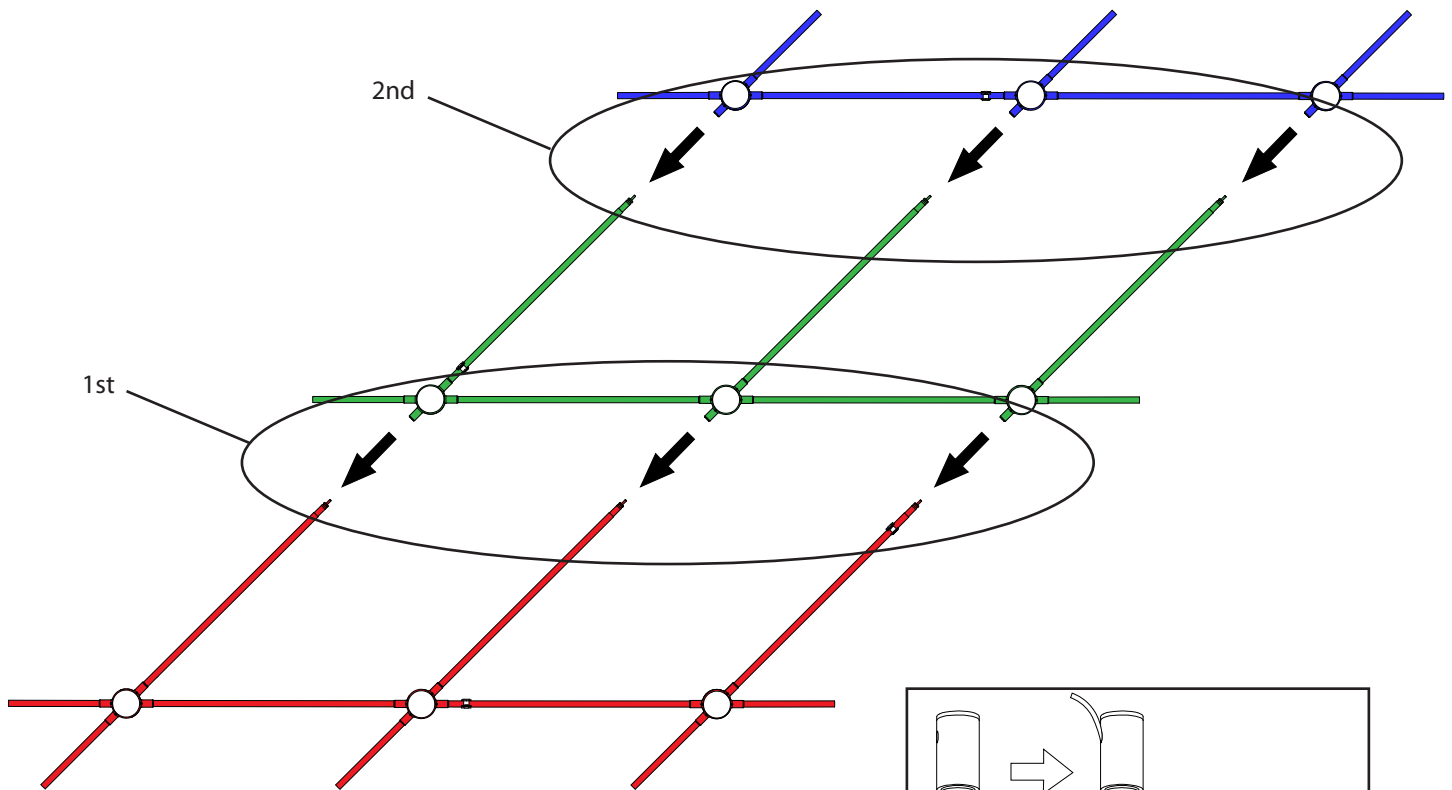

Fig. 7
13. Consecutively connect the previous section to the next section (Section 1 to Section 2, Section 2 to Section 3, etc.) one Arm at a time starting from either end (follow Steps 10 and 11 to establish connections) (Fig. 7)